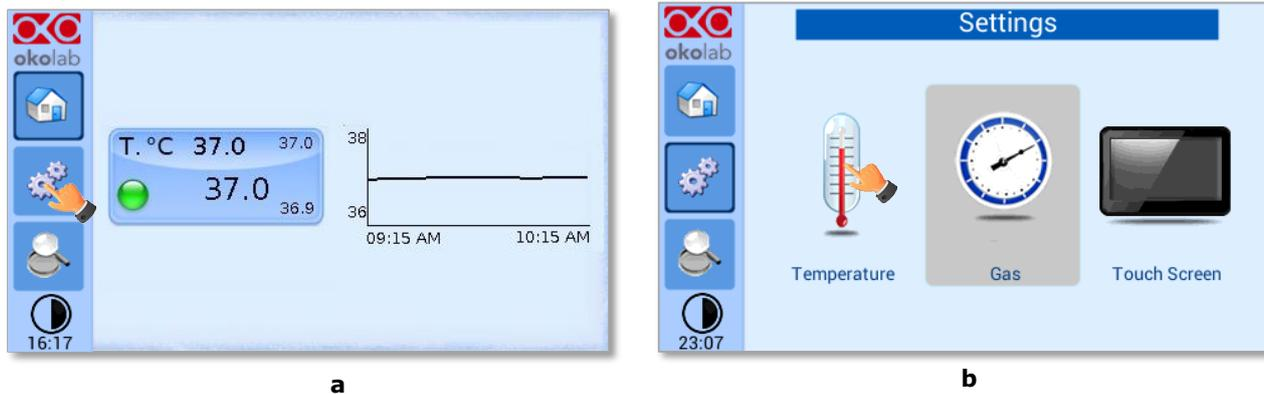

Figure 12. Temperature Settings (a - b)
1. Press on the *Settings* icon  (see Figure 12 a) to enter the *Settings* menu.
2. Press on the *Temperature* icon  to enter the temperature settings menu, as shown in the Figure 12 b.